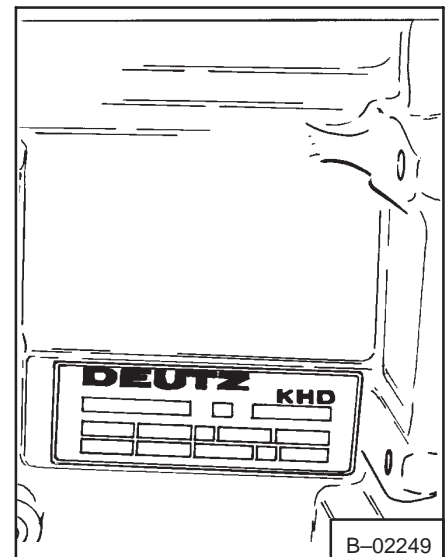

Fig. 1-3 Engine Serial Number (721)
**721 Deutz:** (Fig. 1-3) The engine serial number location is on the right side of cylinder block. Use all numbers when ordering parts for this engine.